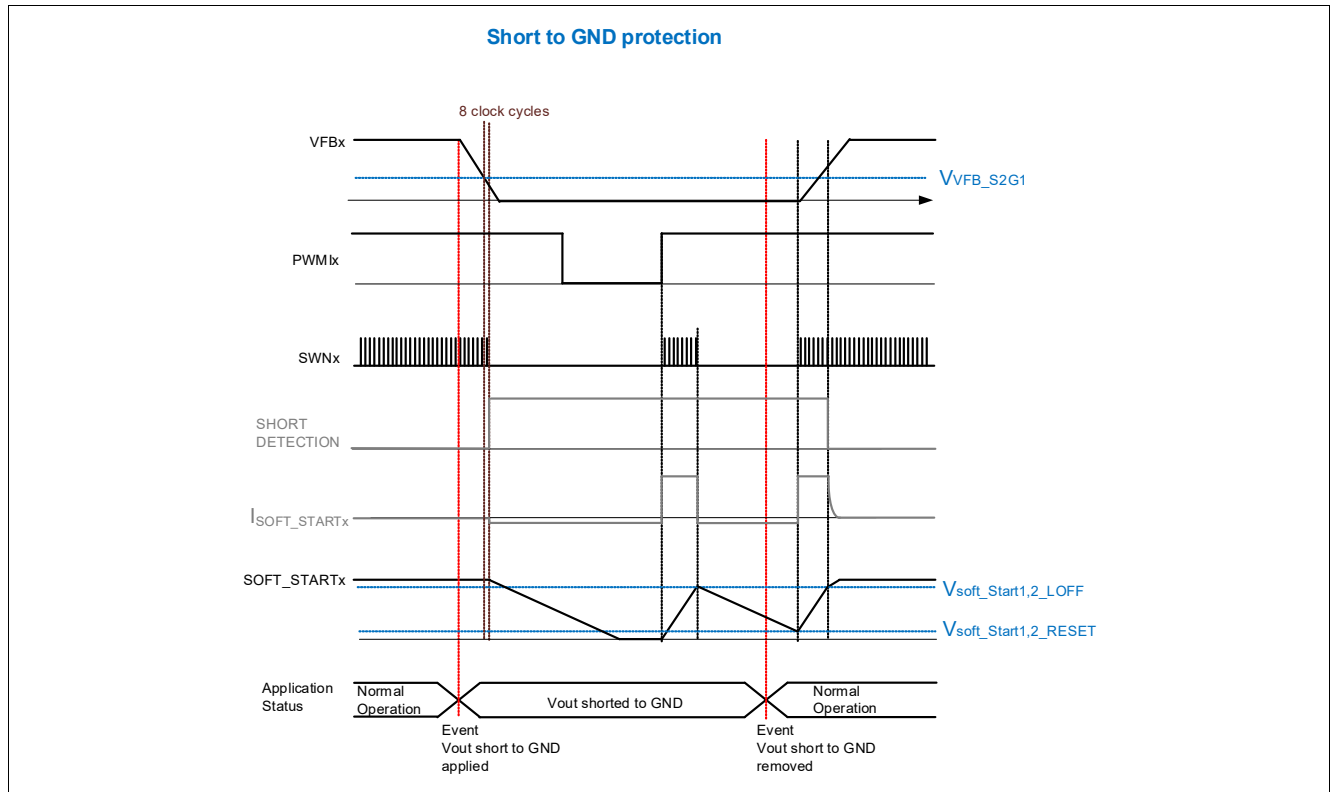

Figure 8 Soft Start timing diagram on a short to ground detected by the VFBx pin
- Fault management: fault mask and wait-before-retry time, on rising and falling edge of SOFT_START1,2 respectively (**Figure 8** and **Chapter 10.2**)
If a short on the output is detected, a pull-down current source $I_{\text{SOFT_START1,2_PD}}$ (P_6.4.59) is activated. This current brings down the $V_{\text{SOFT_START1,2}}$ until $V_{\text{SOFT_START1,2_RESET}}$ (P_6.4.61) is reached, then the pull-up current source $I_{\text{SOFT_START1,2_PU}}$ (P_6.4.58) turns on again, if PWM1,2 is high, see **Figure 8**. If the fault condition hasn't been removed until $V_{\text{SOFT_START1,2_LOFF}}$ (P_6.4.60) is reached, the pull-down current source turns back on again, initiating a new cycle. This will continue until the fault is removed.